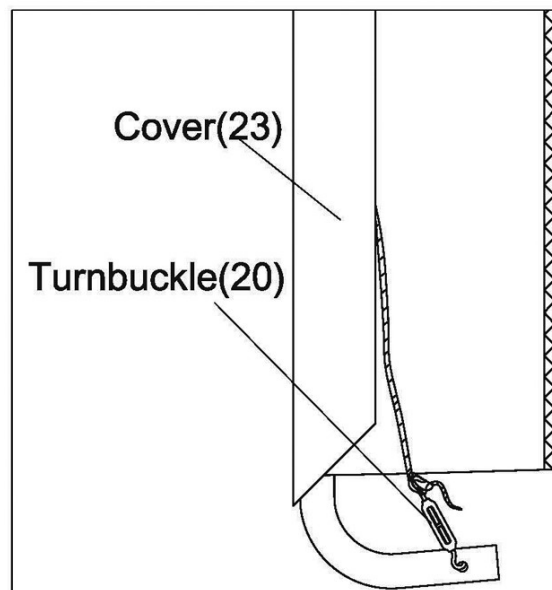

Figure 13
4. Loosen the four turnbuckles (20). Tie the ropes loosely to the turnbuckles (20). Check to be sure the cover is still centered and has the same amount of overlap on the front and the back. See Figure 13.
6. Pull the rope tighter, using a few knots to secure to the turnbuckle (20). Twist the turnbuckle (20) to tighten the rope.
7. Check monthly & tighten if needed. See Figure 13.
8. When the cover (23) is aligned, fasten it to the frame using the rope (19).
9. Start by lacing the end of the rope through the first punched hole in the cover. Pass the rope under the Bottom Rails (8), and continue down the garage, creating a laced effect.
10. When laced to the end that will be the End Bottom Rail (9) tie off at the end. Work your way back tightening the lacing by pulling the rope down, creating a snug fit.